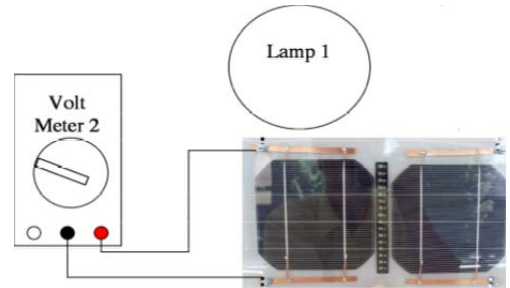

Fig. 7.1: Cell connected to open circuit voltage.
1. Connect the PV cell to the volt meter as shown in Fig. 7.1. The red terminal on the module (+) should be connected to the VΩmA terminal on the meter. The black terminal on the module (-) should measure connected to the COM terminal of the meter.